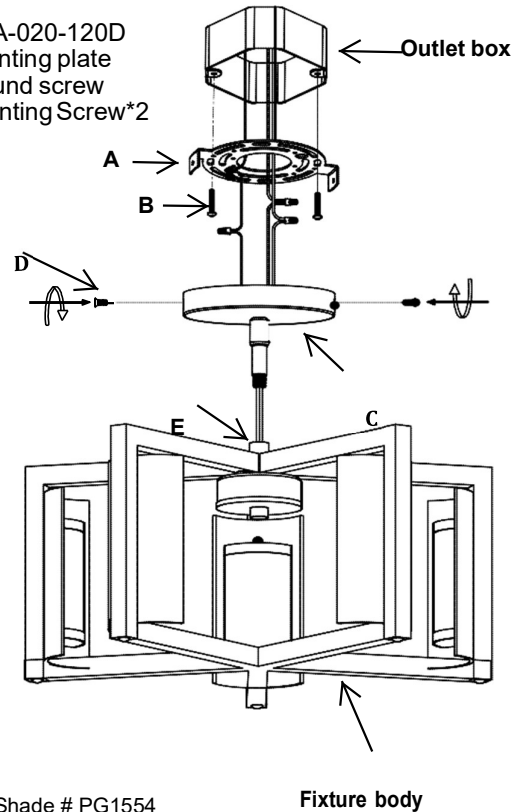

Fig. 2
CONNECTION THE WIRES (Fig. 2)
5. Connect the electrical wires as shown in Fig.2, making sure that all wire connectors are secured. If your outlet has a ground wire (green or bare copper), connect the fixture's ground wire to it. Otherwise, connect the fixture's ground wire directly to the mounting plate (A) using the green screw provided. After wires are connected, tuck them carefully inside the outlet box.